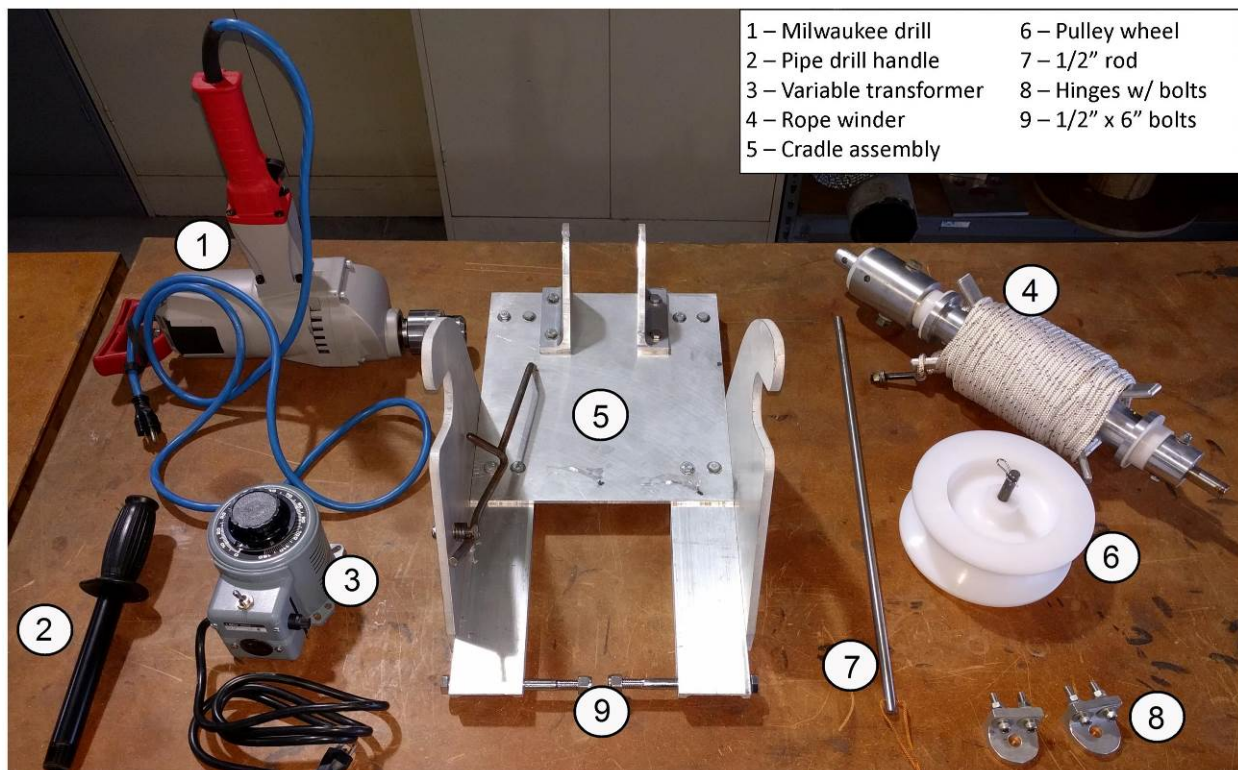
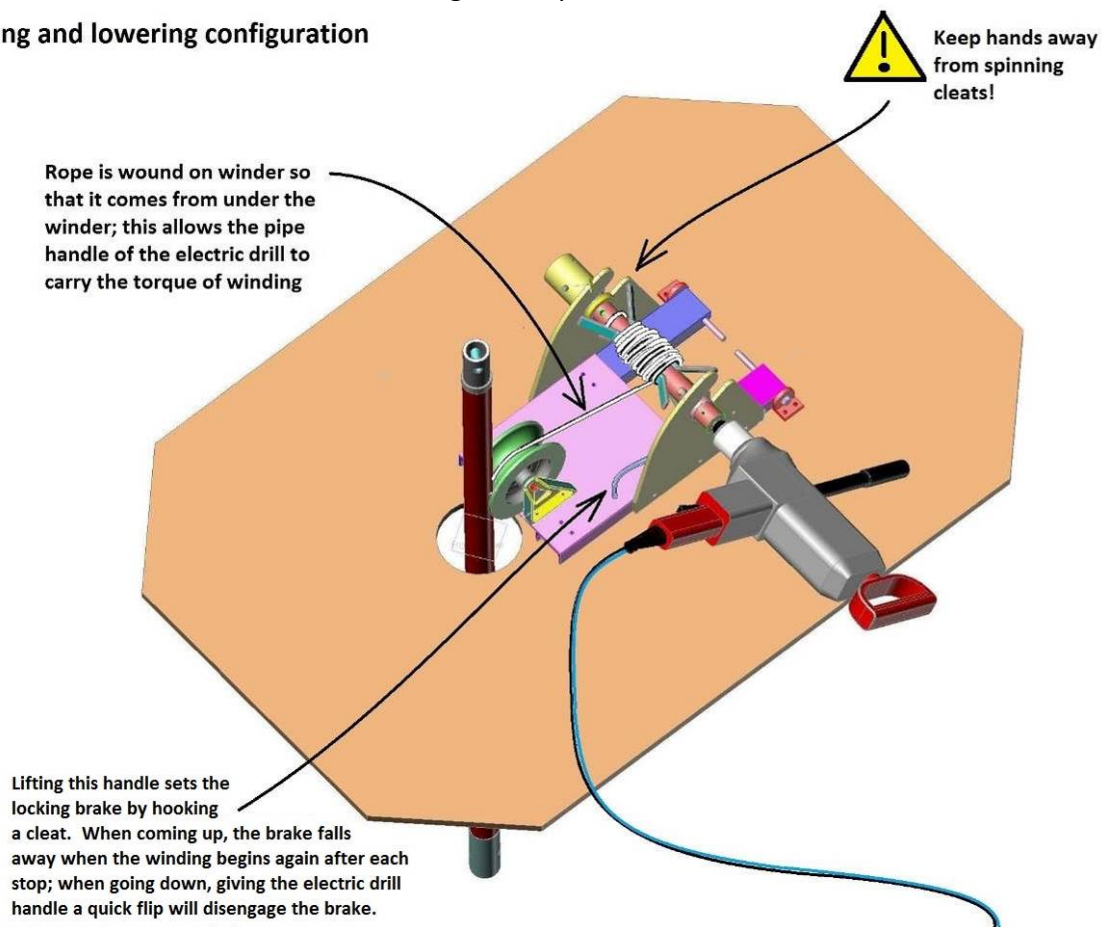

Figure 2: Main SideWinder components
Figure 3: The SideWinder in its lifting and lowering configuration. The top of the drill string is shown protruding from the 'borehole'.
- 7.2 How does it work?** The SideWinder kit provides power for rotating as well as lifting and lowering the drill string, greatly decreasing effort and time for collecting ice cores. Its power comes from a hand-held electric drill. Lifting is enabled by a rope on a winder that is attached to the electric drill (see Figure 2). During lifting and lowering of the drill string, the winder sits in a cradle. During drilling, the cradle leans back out of the way and the winder connects to the drill string (see Figure 3). In summary, the electric drill is used both for rotating the drill string, as well as raising and lowering the drill string.